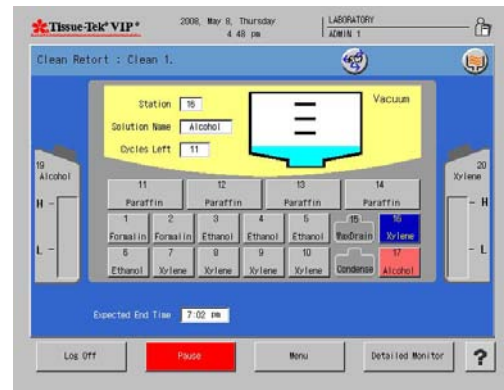

Figure 4-N
- The Clean Retort Overview Monitor Screen displays (Figure 4-N).